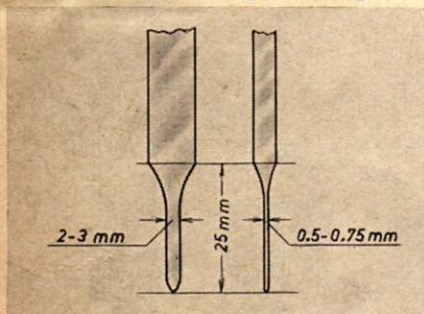

Fig. 66 Steel tool for cleaning sparking plug
9. Before the sparking plug can be replaced it must be thoroughly cleaned with the steel tool illustrated in fig. 66, or a sand blaster. Adjust the sparking plug gap to 0.4 mm.